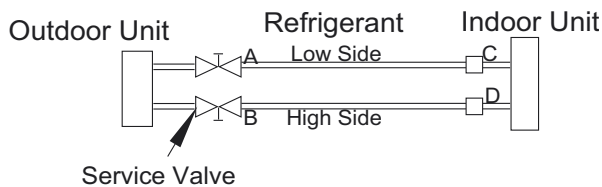

Fig. 8 – Service Valve
- 1 Completely tighten the flare nuts (A, B, C, D, E). Fully open all circuits service valves. Connect the manifold gage charge hose to the charge port of the low side Master service valve to evacuate all circuits at the same time (see Fig. 8).